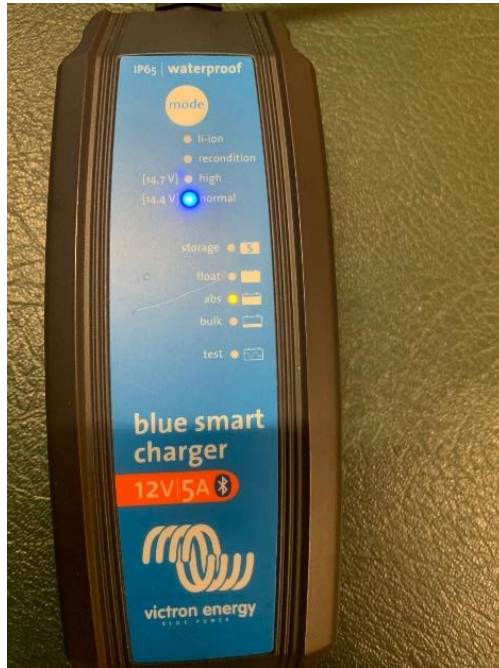

Figure 7 Charger in 'normal' mode.
- Open the VictronConnect app on a suitable device. Choose 'Local', the app will identify the charger (see Figure 7).
- Select the 'Settings' via the cog symbol in the top right corner (see Figure 7).